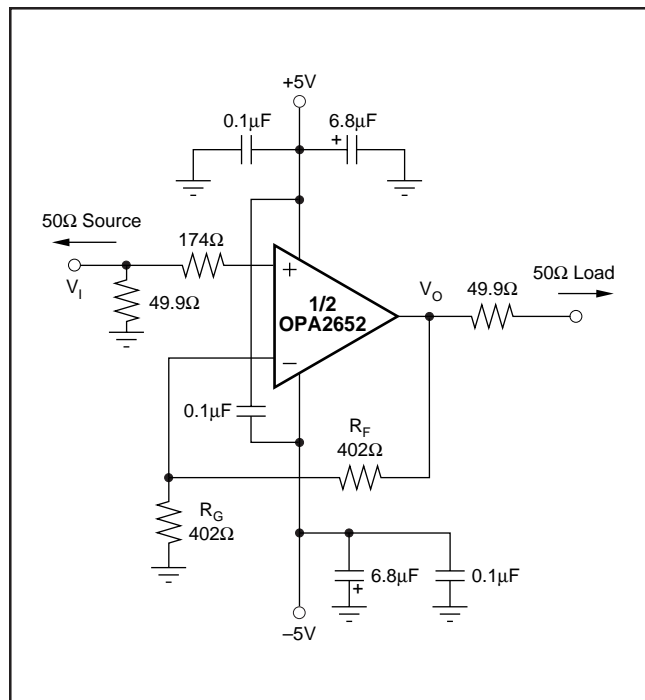
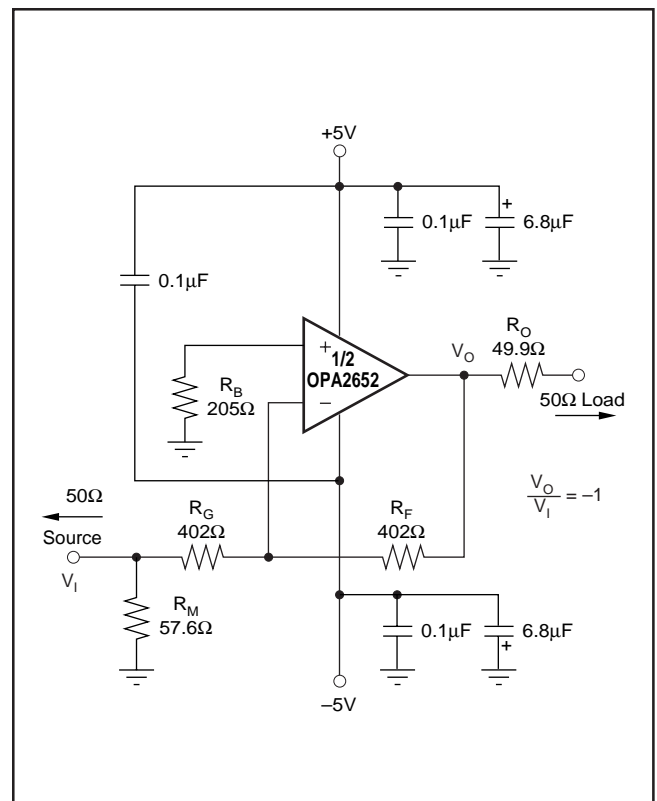

FIGURE 1. DC-Coupled, $G = +2$, Bipolar Supply, Specification and Test Circuit.
FIGURE 2. DC-Coupled, $G = -1$, Bipolar Supply, Specification and Test Circuit.
At $T_A = +25^\circ C$, $G = +2$, $R_F = 402\Omega$, and $R_L = 100\Omega$, unless otherwise noted. See Figures 1 and 2.
Figure 1 shows the DC-coupled, gain of +2, dual power supply circuit configuration used as the basis of the $\pm 5\text{V}$ Specifications and Typical Performance Curves. This is for one channel. The other channel is connected similarly. For test purposes, the input impedance is set to 50Ω with a resistor to ground and the output impedance is set to 50Ω with a series output resistor. Voltage swings reported in the specifications are taken directly at the input and output pins, while output powers (dBm) are at the matched 50Ω load. For the circuit of Figure 1, the total effective load will be $100\Omega \parallel 804\Omega$. Two optional components are included in Figure 1.
Figure 2 shows the DC-coupled gain of -1 , bipolar supply circuit configuration which is the basis of the Specifications and Typical Performance Curves at $G = -1$. The input impedance matching resistor (57.6Ω) used for testing gives a 50Ω input load. A resistor (205Ω) connects the non-inverting input to ground. This provides the DC source resistance matching to cancel outputs errors due to input bias current.
A good rule of thumb is to target the parallel combination of R_F and R_G (Figure 1) to be less than approximately 300Ω . The combined impedance $R_F \parallel R_G$ interacts with the inverting input capacitance, placing an additional pole in the feedback network, and thus a zero in the forward response. Assuming a $2pF$ total parasitic on the inverting node, holding $R_F \parallel R_G < 300\Omega$ will keep this pole above $250MHz$. By itself, this constraint implies that the feedback resistor R_F can increase to several $k\Omega$ at high gains. This is acceptable as long as the pole formed by R_F and any parasitic capacitance appearing in parallel is kept out of the frequency range of interest.
Voltage feedback op amps exhibit decreasing closed-loop bandwidth as the signal gain is increased. In theory, this relationship is described by the Gain Bandwidth Product (GBP) shown in the specifications. Ideally, dividing GBP by the non-inverting signal gain (also called the Noise Gain, or NG) will predict the closed-loop bandwidth. In practice, this only holds true when the phase margin approaches 90° , as it does in high gain configurations. At low gains (increased feedback factor), most amplifiers will exhibit a wider bandwidth and lower phase margin. The OPA2652 is compensated to give a flat response in a non-inverting gain of 1 (Figure 1). This results in a typical gain of +1 bandwidth of 700MHz, far exceeding that predicted by dividing the 200MHz GBP by $NG = 1$. Increasing the gain will cause the phase margin to approach 90° and the bandwidth to more closely approach the predicted value of (GBP/NG) . At a gain of +5, the 45MHz bandwidth shown in the Typical Specifications is close to that predicted using this simple formula.
Since the OPA2652 is a general purpose, wideband voltage feedback op amp, all of the familiar op amp application circuits are available to the designer. Inverting operation is one of the more common requirements and offers several performance benefits. Figure 2 shows a typical inverting configuration.
In the inverting configuration, three key design considerations must be noted. The first is that the gain resistor (R_G) becomes part of the signal channel input impedance. If input impedance matching is desired (which is beneficial whenever the signal is coupled through a cable, twisted pair, long PC board trace or other transmission line conductor), R_G may be set equal to the required termination value and R_F adjusted to give the desired gain. This is the simplest approach and results in optimum bandwidth and noise performance. However, at low inverting gains, the resultant feedback resistor value can present a significant load to the amplifier output. For an inverting gain of -1 , setting R_G to 50Ω for input matching eliminates the need for R_M but requires a 50Ω feedback resistor. This has the interesting advantage that the noise gain becomes equal to 2 for a 50Ω source impedance—the same as the non-inverting circuits considered above. However, the amplifier output will now see the 50Ω feedback resistor in parallel with the external load. In general, the feedback resistor should be limited to the 200Ω to $1.5k\Omega$ range. In this case, it is preferable to increase both the R_F and R_G values as shown in Figure 2, and then achieve the input matching impedance with a third resistor (R_M) to ground. The total input impedance becomes the parallel combination of R_G and R_M .
The second major consideration, touched on in the previous paragraph, is that the signal source impedance becomes part of the noise gain equation and influences the bandwidth. For the example in Figure 2, the R_M value combines in parallel with the external 50Ω source impedance, yielding an effective
driving impedance of $50\Omega \parallel 57.6\Omega = 26.8\Omega$. This impedance is added in series with R_G for calculating the noise gain (NG). The resultant NG is 1.94 for Figure 2, (an ideal 0Ω source would cause $NG = 2.00$).
The third important consideration in inverting amplifier design is setting the bias current cancellation resistor on the non-inverting input (R_B). If this resistor is set equal to the total DC resistance looking out of the inverting node, the output DC error, due to the input bias currents, will be reduced to $(\text{Input Offset Current}) \cdot R_F$. If the 50Ω source impedance is DC-coupled in Figure 2, the total resistance to ground on the inverting input will be 429Ω . Combining this in parallel with the feedback resistor gives 208Ω , which is close to the $R_B = 205\Omega$ used in Figure 2. To reduce the additional high frequency noise introduced by this resistor, it is sometimes bypassed with a capacitor. As long as $R_B < 300\Omega$, the capacitor is not required since its total noise contribution will be much less than that of the op amp's input noise voltage.
The OPA2652 provides good distortion performance into a 100Ω load on ±5V supplies. Increasing the load impedance improves distortion directly. Remember that the total load includes the feedback network; in the non-inverting configuration (Figure 1) this is sum of $R_F + R_G$, while in the inverting configuration, it is just R_F . Also, providing an additional supply decoupling capacitor (0.1μF) between the supply pins (for bipolar operation) improves the 2nd-order distortion slightly (3dB to 6dB).
Evaluating these two equations for the OPA2652 circuit and component values shown in Figure 1 will give a total output spot noise voltage of $17\text{nV}/\sqrt{\text{Hz}}$ and a total equivalent input spot noise voltage of $8.4\text{nV}/\sqrt{\text{Hz}}$. This is including the noise added by the bias current cancellation resistor (205Ω) on the non-inverting input. This total input-referred spot noise voltage is only slightly higher than the $8\text{nV}/\sqrt{\text{Hz}}$ specification for the op amp voltage noise alone. This will be the case as long as the impedances appearing at each op amp input are limited to the previously recommend maximum value of 300Ω. Keeping both ($R_F \parallel R_G$) and the non-inverting input source impedance less than 300Ω will satisfy both noise and frequency response flatness considerations. Since the resistor-induced noise is relatively negligible, additional capacitive decoupling across the bias current cancellation resistor (R_B) for the inverting op amp configuration of Figure 2 is not required.
The balanced input stage of a wideband voltage feedback op amp allows good output DC accuracy in a wide variety of applications. Although the high speed input stage does require relatively high input bias current (typically 4μA out of each input terminal), the close matching between them may be used to significantly reduce the output DC error caused by this current. This is done by matching the DC source resistances appearing at the two inputs. This reduces the output DC error due to the input bias currents to the offset current times the feedback resistor. Evaluating the configuration of Figure 1, using worst-case +25°C input offset voltage and current specifications, gives a worst-case output offset voltage equal to:
As an example, compute the maximum T_J using an OPA2652E (SOT23-8 package) in the circuit of Figure 1 operating at the maximum specified ambient temperature of $+85^{\circ}\text{C}$ and with both outputs driving 2.5V_{DC} into a grounded 100Ω load.